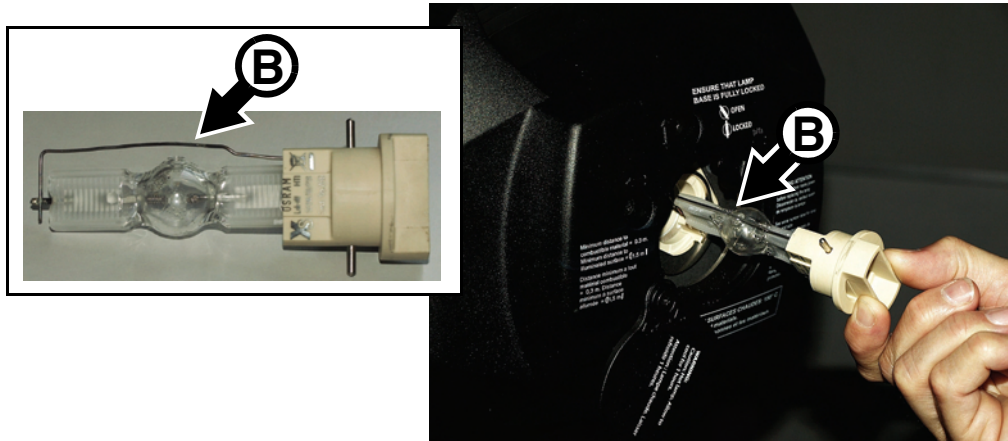

Figure 10: Lamp removal / refitting
4. See Figure 10. Grasp the ceramic lamp base, twist it 45° counterclockwise to release it, then remove the lamp gently from the fixture.
5. See Figure 10. Hold the replacement lamp so that the external wire **B** is facing up towards the top of the head (towards the vertical and horizontal alignment screws **C** and **D**) and line up the contacts on the lamp base with the slots in the lampholder. Slide the lamp into the fixture until the contacts are fully engaged in the slots, then twist the lamp base a full 45° clockwise until it locks into position with a noticeable click. The lamp is a stiff fit and trying to strike a lamp that is not correctly installed can cause damage that is not covered by the product warranty, so ensure that the lamp is correctly locked into position.